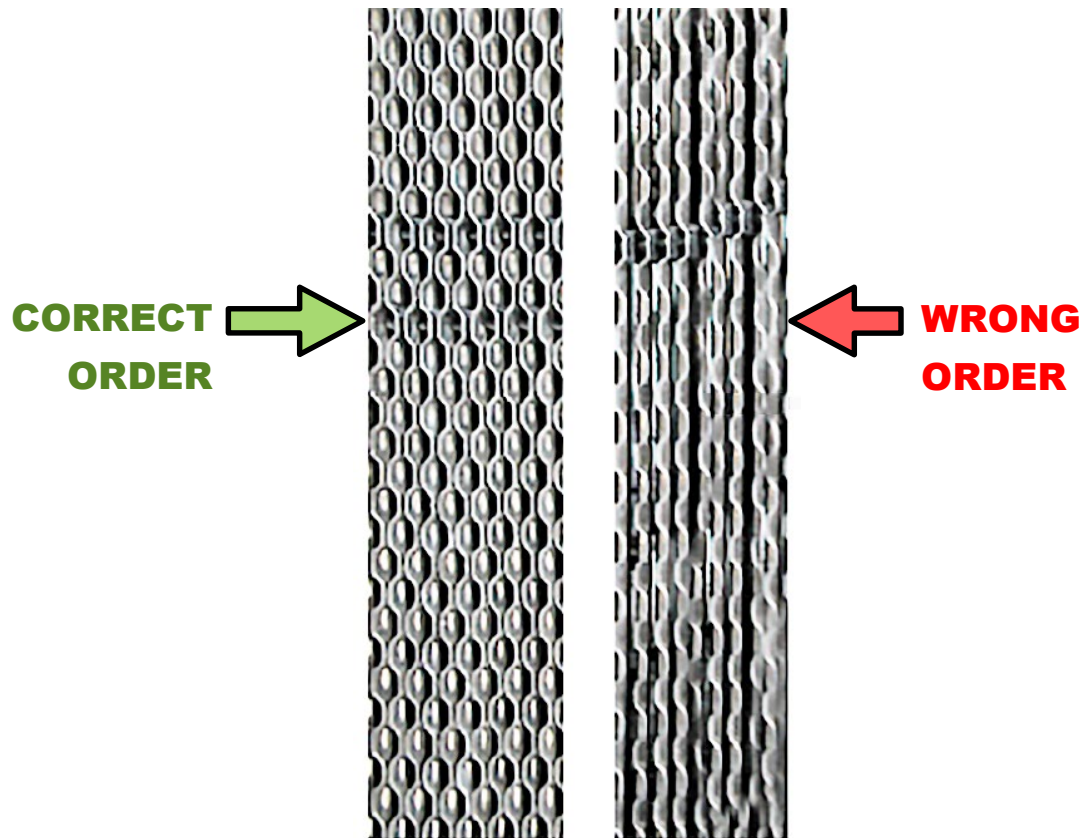

FIGURE 4-3: Determining Proper Alternating Plate Packing
- Alternate between left and right handed plates—if the plate edges form a regular honeycomb pattern, the left/right hand sequence is correct. See Figure 4-3 below.